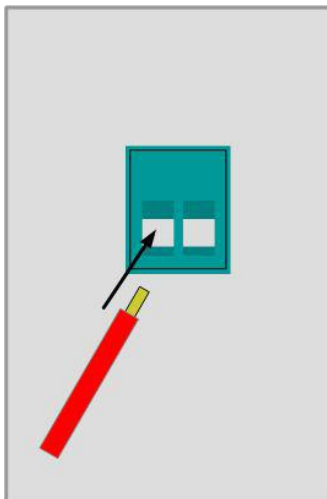

Figure 7. Power Supply-1
- ① As depicted in Figure 7, peel off sheath of cable about 7mm, place it on the socket and fasten upper screw.